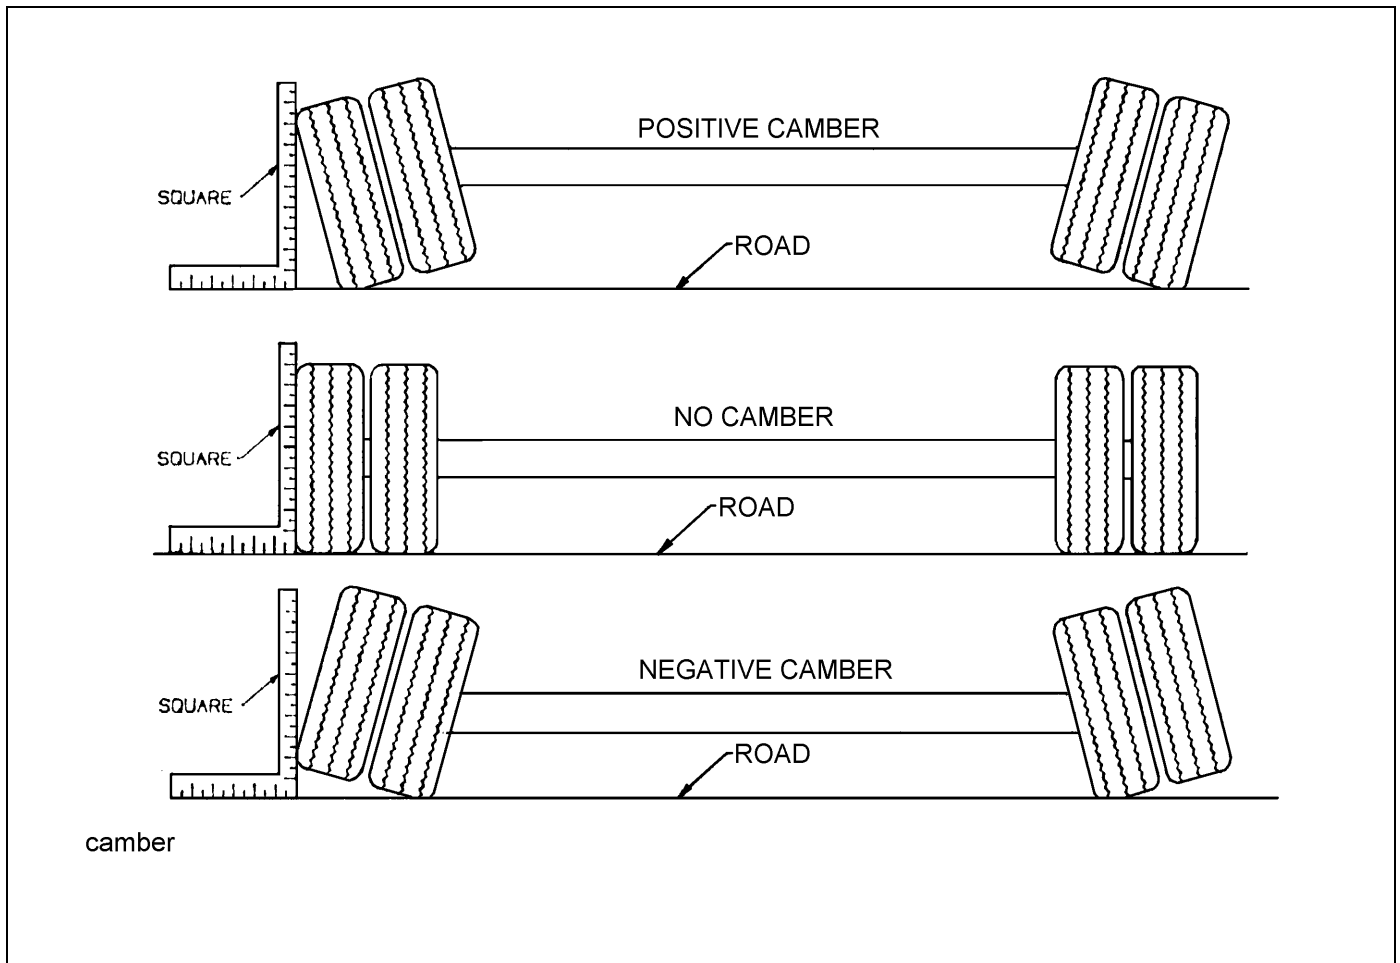

Figure 4-8: Examples of Camber
4. Follow the same procedures as in **steps 2 and 3**, except place the axle gauge above and below the axle. If gauge point gap is found, the axle has positive or negative camber. The trailer axle has no camber from the factory. If it is found to have positive or negative camber, axle replacement is necessary (See Figure 4-8 for examples of camber).